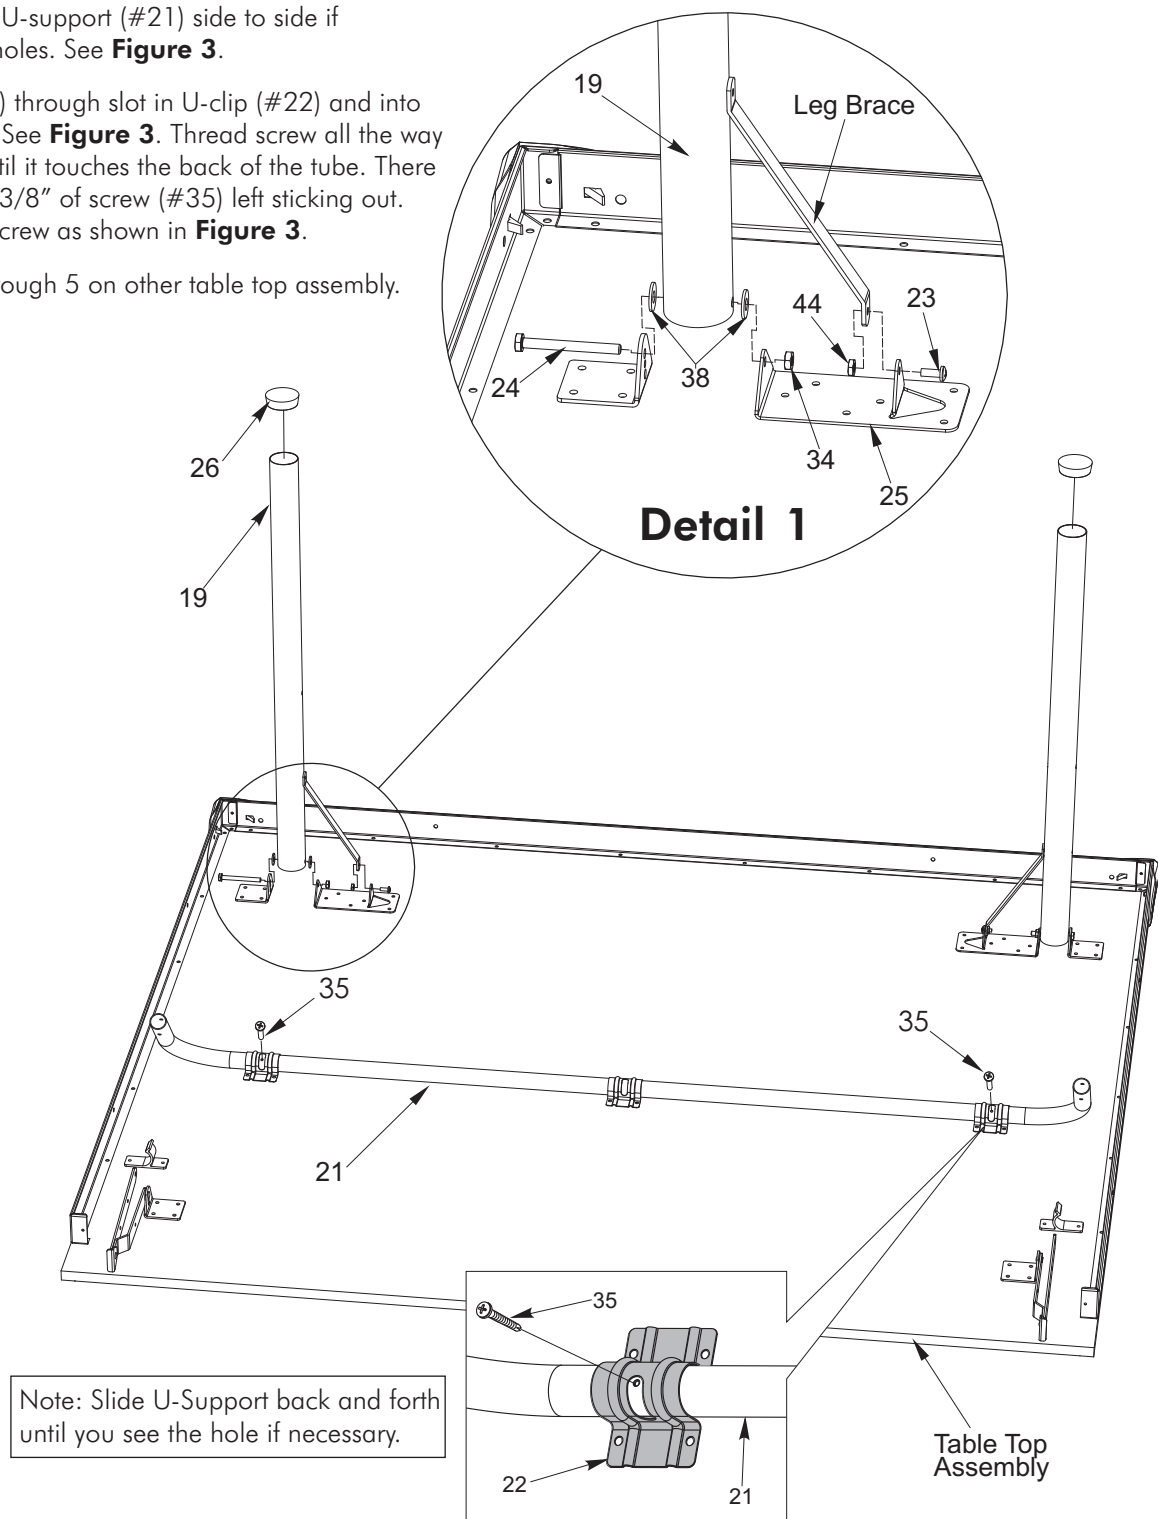

Figure 3
3. Lay Table Top Assembly painted side down, on a smooth, flat surface. Use the shipping carton to protect the painted surface of the table top. Attach legs (#19) to table top with Hex Bolt (#24), two Plastic Washers (#38) and Locknut (#34). Attach leg brace to Leg Mounting Bracket (#25) with Phillips Head Screw (#23) and #10-24 Locknut (#44) as shown in **Detail 1**. Attach leg caps (#26) to bottom of the legs (#19) as shown in **Figure 3**.
4. Rotate U-support (#21) that is on bottom of Table Top Assembly until you see the screw holes in the slots of U-clips (#22). Slide U-support (#21) side to side if necessary to see holes. See **Figure 3**.
5. Insert Screw (#35) through slot in U-clip (#22) and into U-support (#21). See **Figure 3**. Thread screw all the way into U-support until it touches the back of the tube. There should be about 3/8" of screw (#35) left sticking out. Repeat for other screw as shown in **Figure 3**.